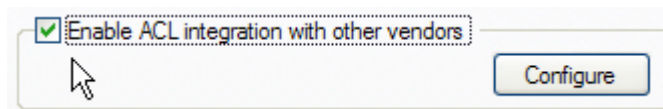

Figure 13-30: Importing ACL from other vendors
- 1) Check the **Enable ACL integration with other vendors** check box. See Figure 13-30.